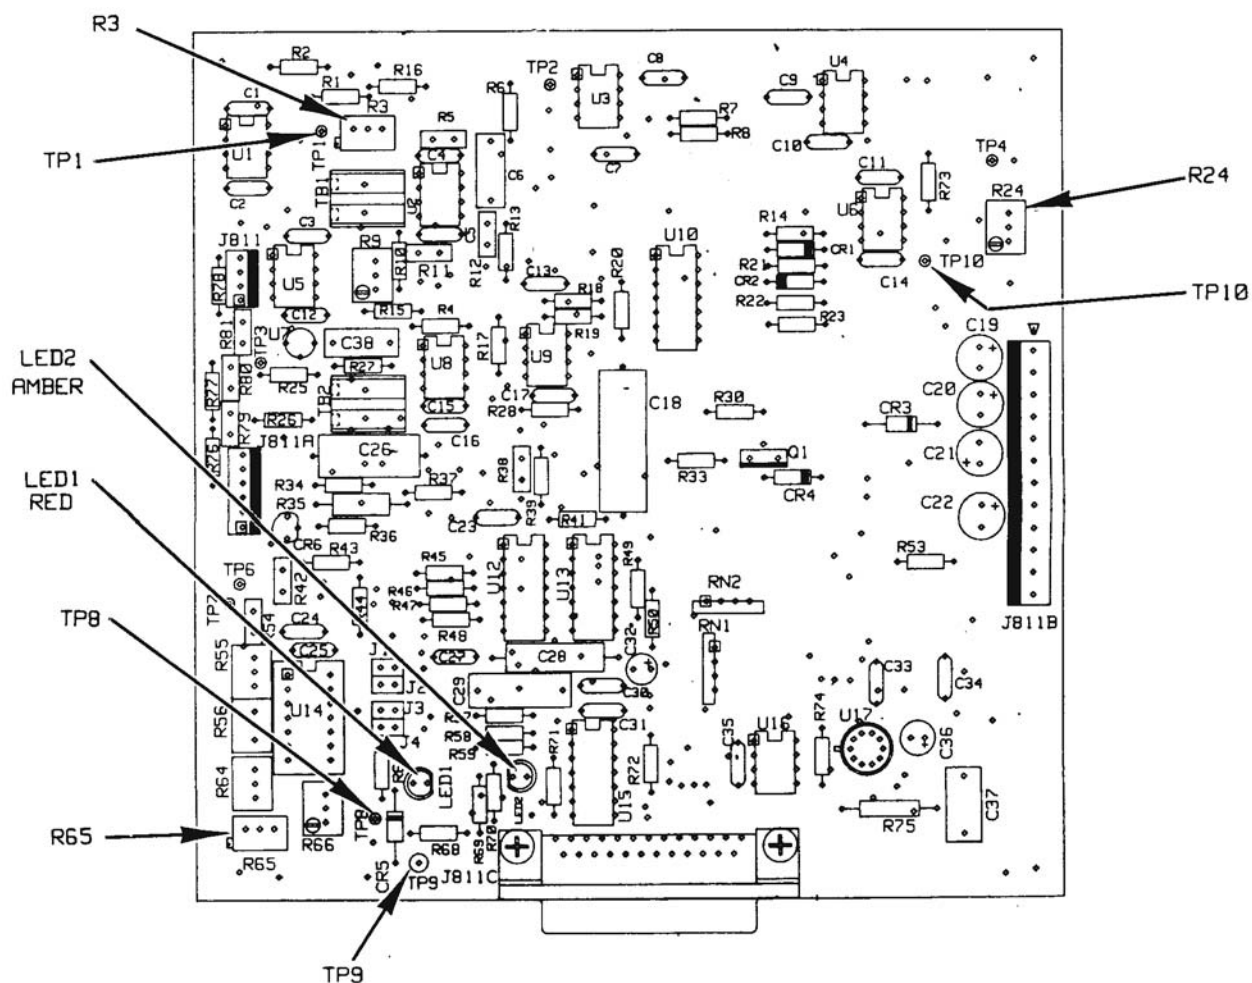

Figure 3-25
3. Remove the furnace right side panel and locate the Furnace Control Card. Refer to Figure 3-25 on page 3-64.